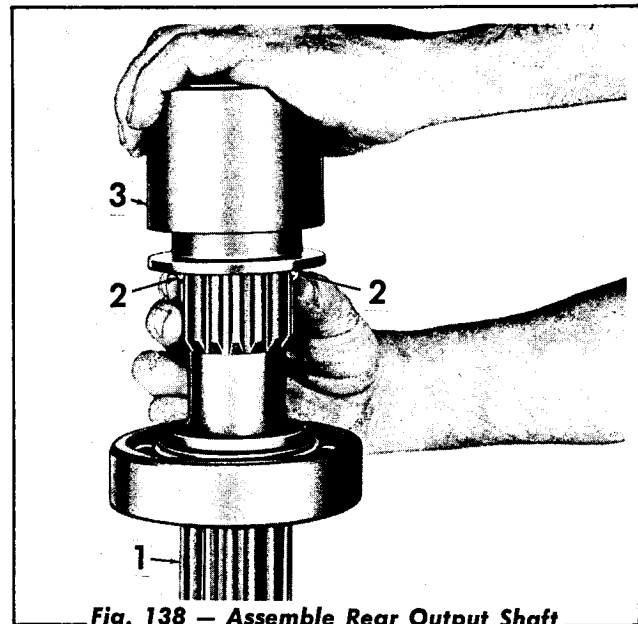

Fig. 138 — Assemble Rear Output Shaft
9. Holding the rear output shaft (Fig. 138) with one hand, install the detent spring and two balls into the shaft. Holding the balls, install the coupling onto the shaft with the groove toward the bearing.